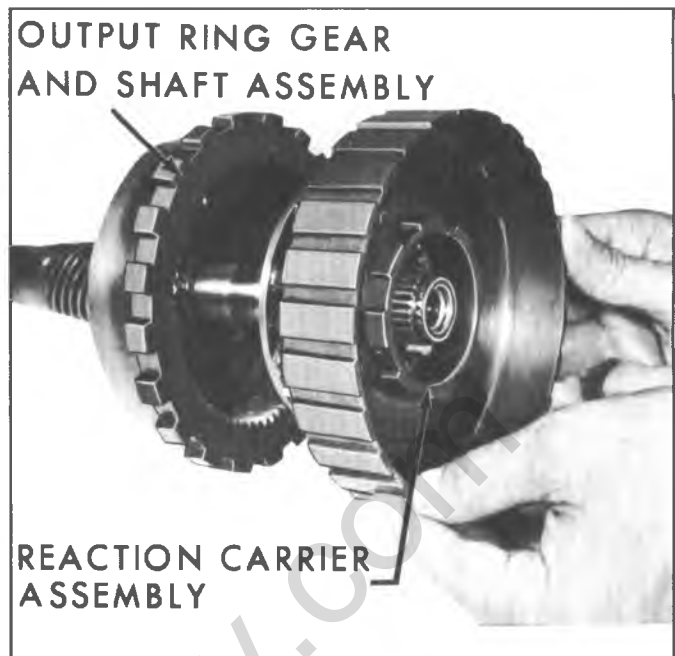

Fig. 40N--Removing Reaction Carrier Assembly
16. Remove reaction carrier assembly from output ring gear and shaft assembly (fig. 40N).